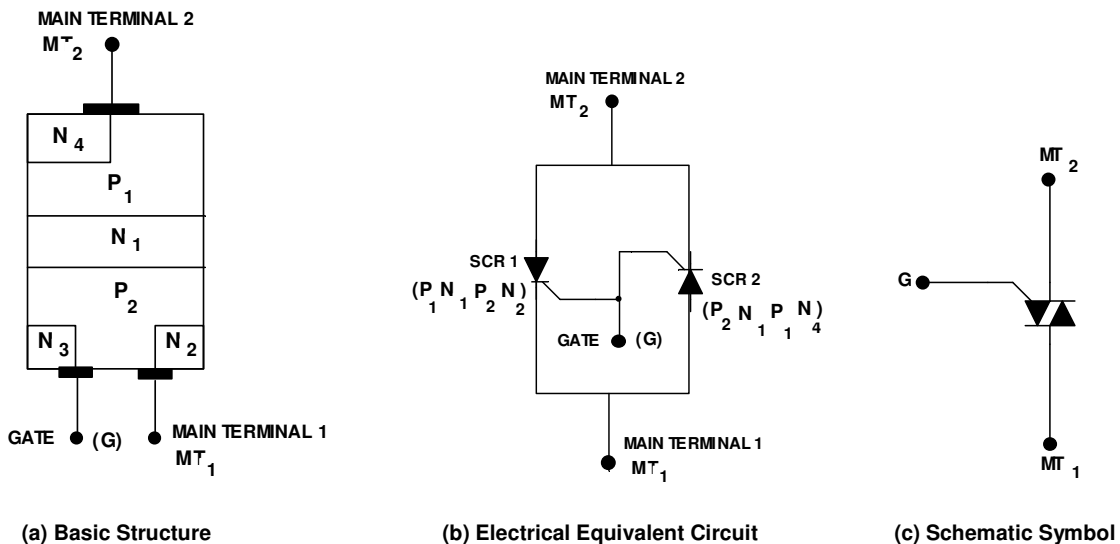

Fig.67 TRIAC
**Marks (5)**
**Ans Basic Structure of TRIAC:** A triac shown in fig.67. basically consists of two SCRs connected in inverse parallel with gate common. In external appearance, the triac is similar to an SCR, but triac is bi-directional device. The internal layers and doping are arranged so that current can flow in either direction. The gate terminal G makes ohmic contacts with both the N and P materials. This permits trigger pulse of either polarity to start conduction. Since the triac is a bilateral device, the term "anode" and 'cathode' has no meaning, and therefore, terminals are designated as Main Terminal 1 (MT1) and main terminal 2 (MT2) and gate G.